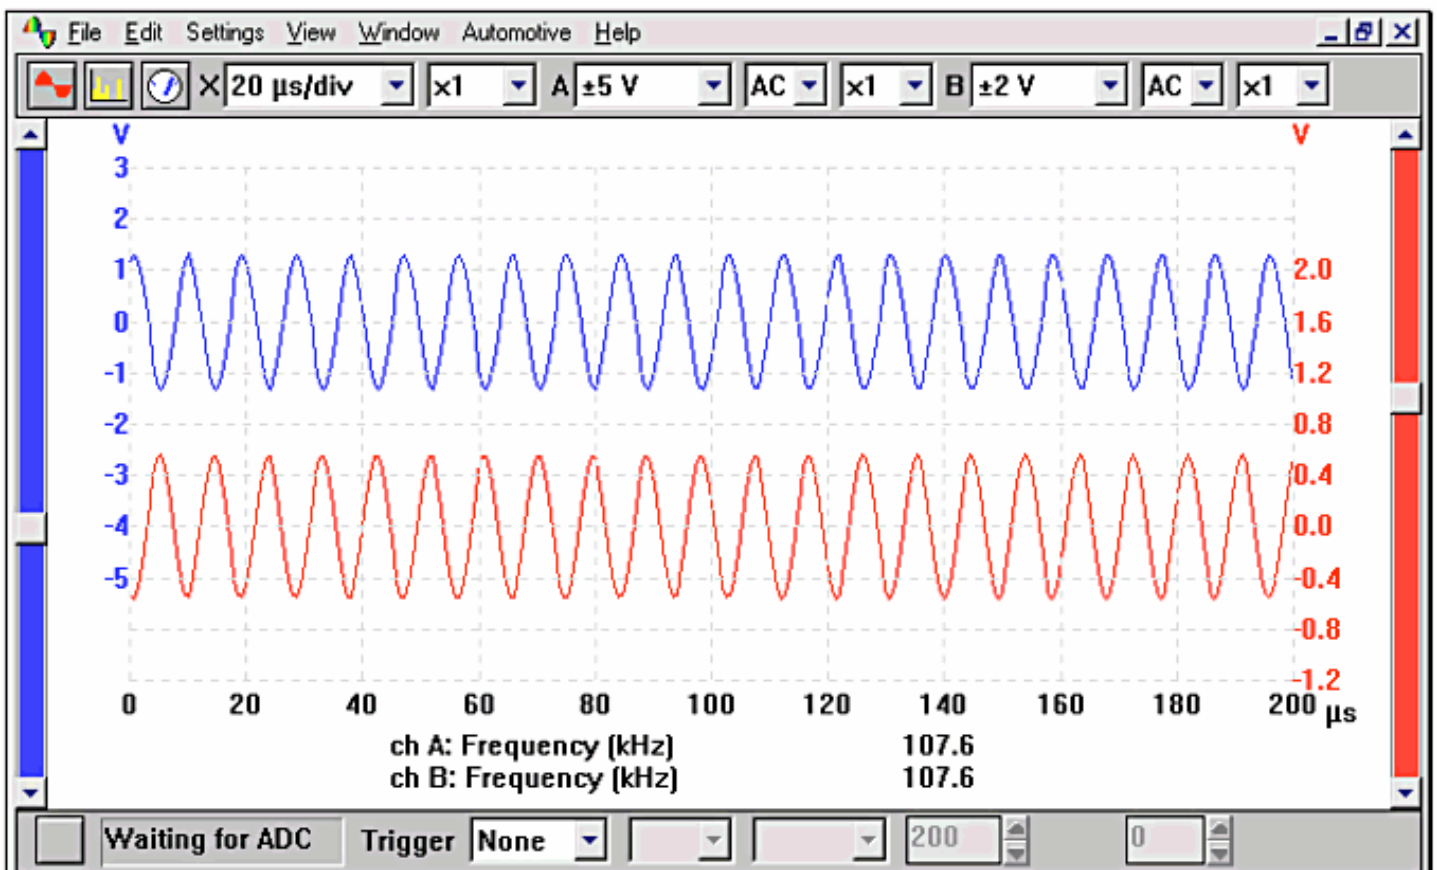

Figure 1.6
This camshaft sensor differs in operation from the other sensors by having an Alternating Current (AC) voltage supply to the CID sensor. The ECM supplies a very high frequency at around 150 KHz (2500 cycles per second) to an exciter coil that is located in close proximity to a rotating disc. The disc is located at the end of the camshaft and has a section removed that when 'open' allows the frequency to excite the receptor (through mutual inductance) and returns the signal to the ECM, indicating the position of number 1 cylinder. Fig 1.6 shows typical outputs.